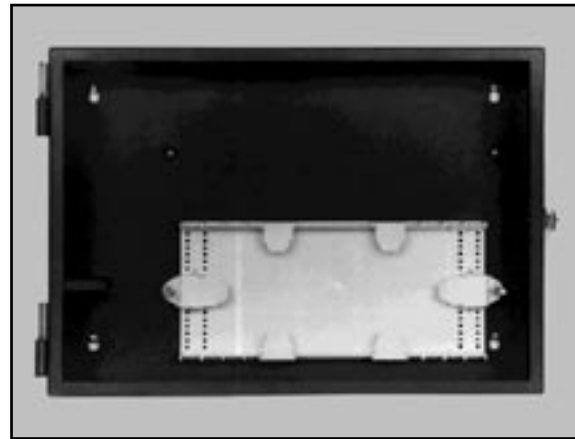

FIGURE 2 - PLACEMENT OF TRANSITION ASSEMBLY IN REAR SECTION (FOR CABLE ENTERING TOP OF CABINET)
3.06 Fasten cabinet securely to the wall, and reinstall the Transition Assembly within the rear section. Install the Transition Assembly on the upper set of 1/4" PEM nuts for a cable entering from the bottom of the cabinet, and on the lower set of nuts for a cable entering the top. (Figure 2)